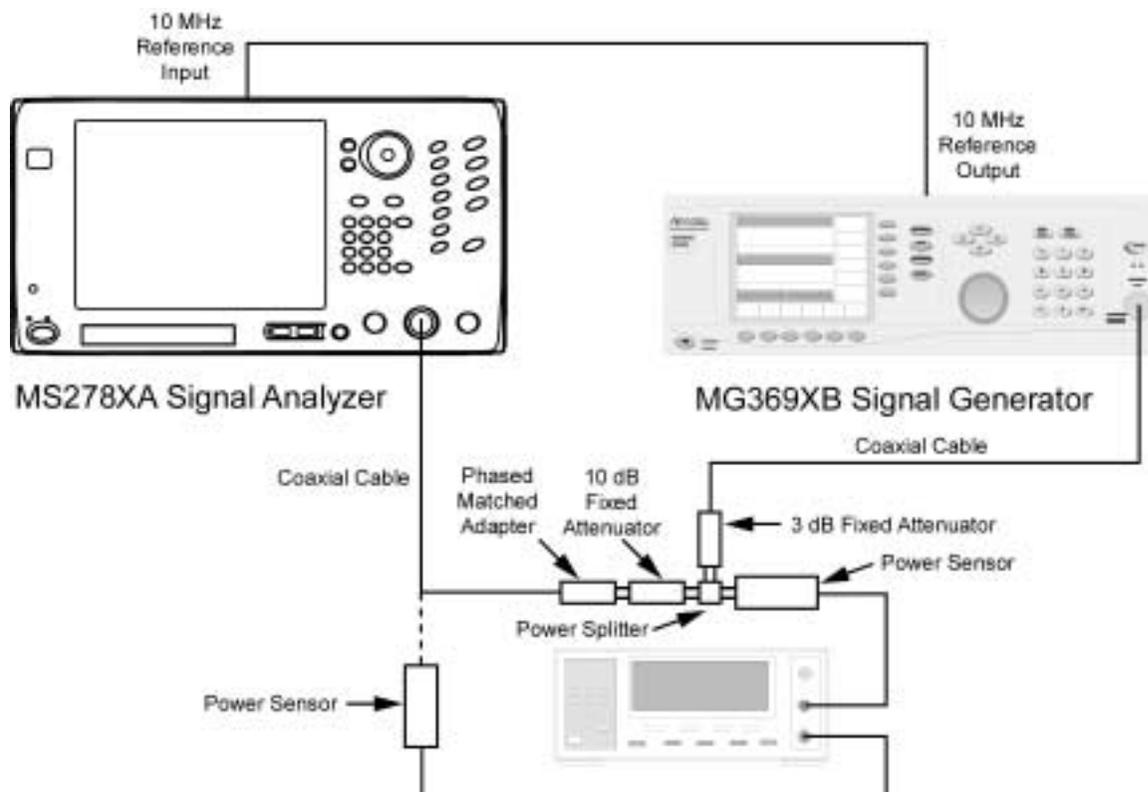

Figure 3-8. Equipment Setup for Frequency Response Test
- Step 6.** Connect the attenuators to the power splitter as shown in Figure 3-8. Use a cable to link the MG369XB RF output to the 3 dB attenuator. Connect a N male to N female adapter to the 10 dB attenuator.